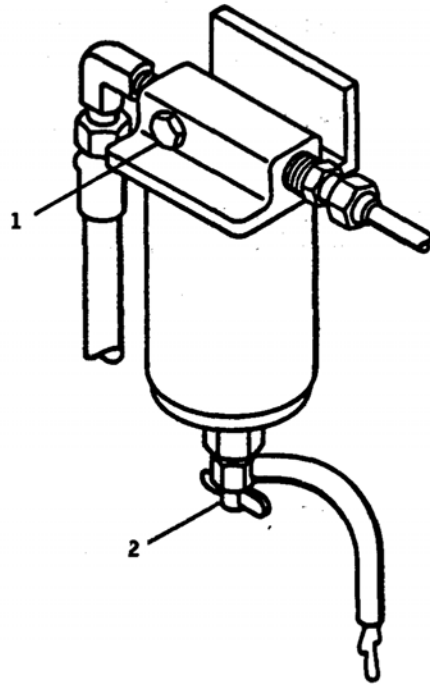

Figure 1. Draining Fuel Filter/Water Separator.
3. Open fuel drain cock (Figure 1, Item 2) and air vent (1) on fuel filter/water separator assembly and drain any sediment and water into a suitable container.
4. Close drain cock (2) and air vent (1).